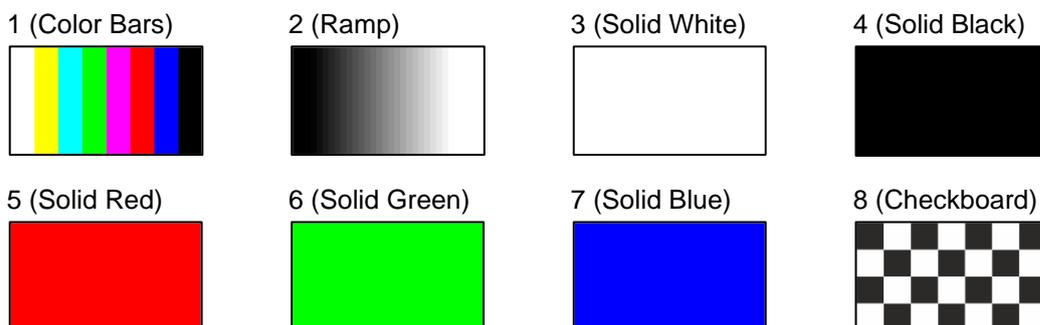

Figure 19: VS-88UHD and VS-84UHD Embedded Patterns
3. Press an input button to select a pattern (see Figure 19).